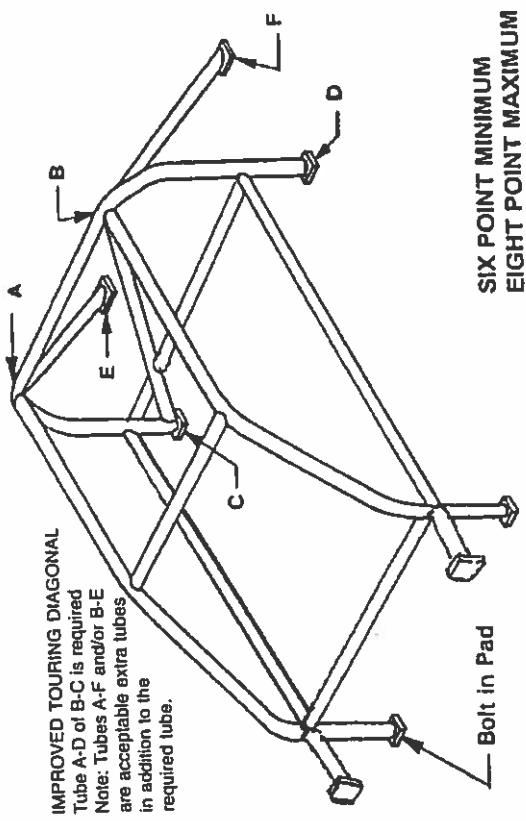

Figure 1
B. It shall attach to the car at no more than eight (8) points, consisting of the basic cage with six (6) points and two optional braces.
C. The forward part of the cage shall be mounted to the floor of the vehicle. In addition, if the two optional braces referred to in 18.2.1.B are utilized they shall be mounted, one on either side, from the forward section of the cage to the firewall or front fender wells (see GCR Section 18.2., Figure 1). No braces shall pass through the front firewall.
A. Main roll hoop (behind the driver) shall extend the full width of the driver/passenger compartment and shall be as near the roof as possible. It shall incorporate a diagonal lateral brace to prevent lateral distortion of the hoop (See Figure 1). Any number of additional reinforcing bars are permitted within the structure of the cage. It is required that the horizontal brace behind the driver's seat (described in Section 18.2.10) continue from the diagonal to the passenger side main hoop upright or that a second diagonal be installed in the main hoop.
E. One (1) bar is recommended in a horizontal plane between forward cage braces in the dash area.
B. It shall attach to the car at no more than eight (8) points, with the forward section of the cage attaching to the front bulkhead or front fender wells (see GCR Section 18.2., Figure 1).
The main roll hoop (behind the driver) shall extend the full width of the driver/passenger compartment and shall be as near the roof as possible. It shall incorporate a diagonal lateral brace to prevent lateral distortion of the hoop (See Figure 1). Any number of additional tubes/braces are permitted within the structure of the cage. It is required that the horizontal brace behind the driver's seat (described in Section 18.2.10) continue from the diagonal to the passenger side main hoop upright or that a second diagonal be installed in the mainhoop.